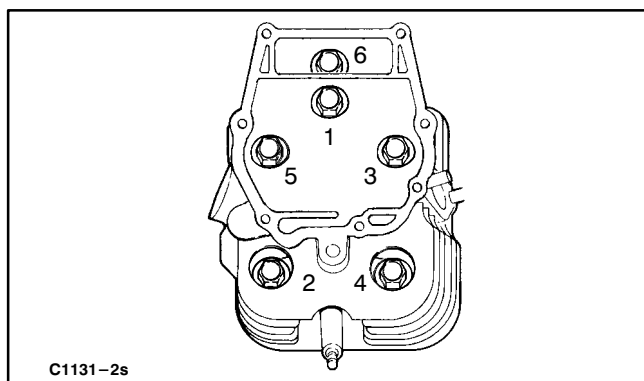

FIGURE 10-5. CYLINDER HEAD TIGHTENING SEQUENCE
6. Place the head in position and follow the head torque tightening sequence shown in Figure 10-5. Start out tightening all bolts to 11 lb-ft (15 Nm), then tighten to the specified torque (see Section 4. *Torque Specifications*).